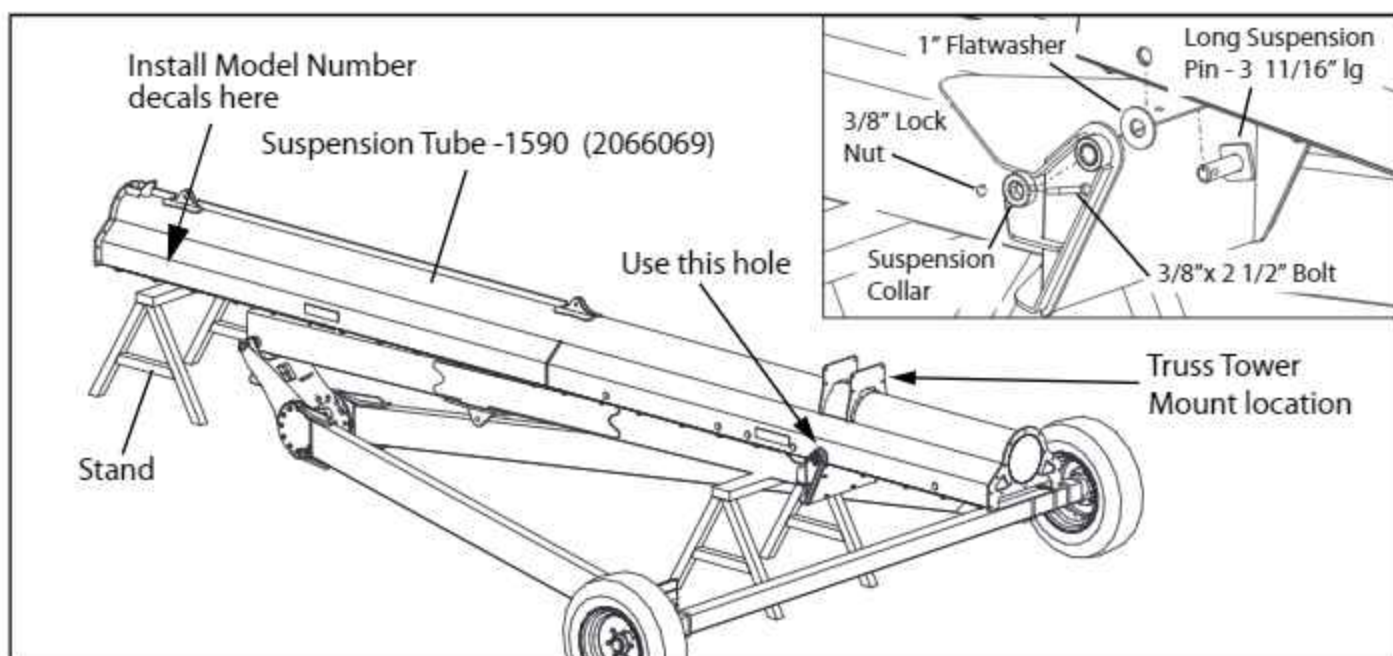

FIG. 3-8. Suspension Tube Installation - 1590
1. Place a stand where shown in Fig. 3-8. Bring in the Suspension Tube Assembly and attach it to the Ladder Tube using two Long Suspension Pins (3 11/16" long), two 1" flat washers, two Suspension Collars, two 3/8" x 2 1/2" bolts and lock nuts.